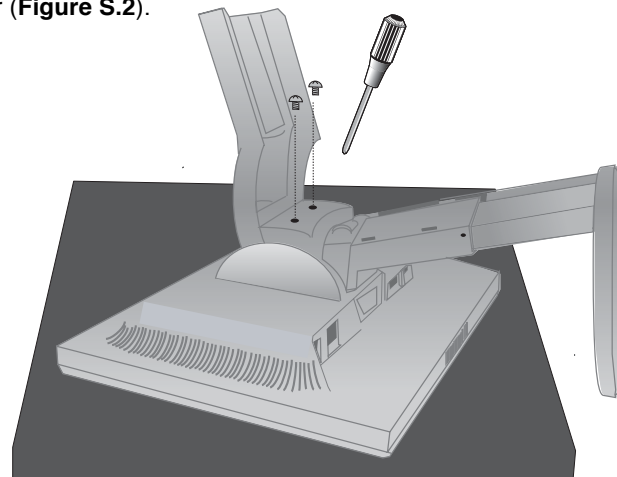

Figure S.2
3. Place monitor face down on a flat and clear non-abrasive surface (**Figure S.2**).
4. Remove the 2 screws connecting the stand to the monitor (**Figure S.2**).